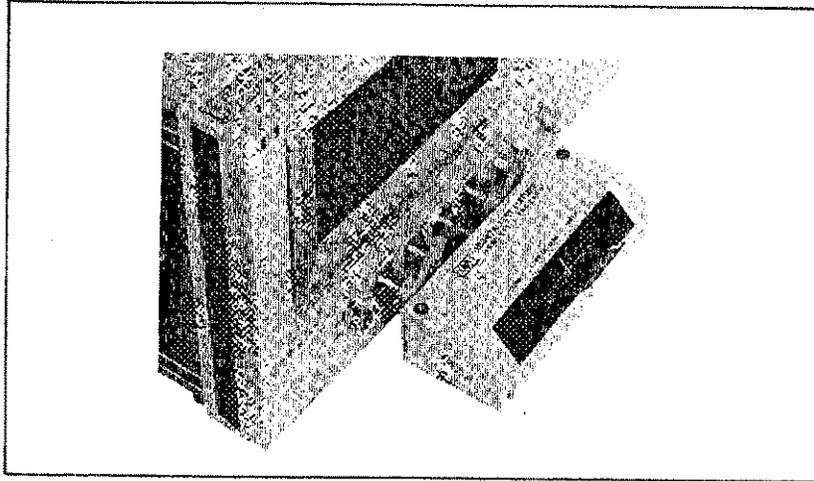

Figure 2-4. Shorting Bar Connection
25. Connect a shorting bar to the test fixture as shown in Figure 2-4.